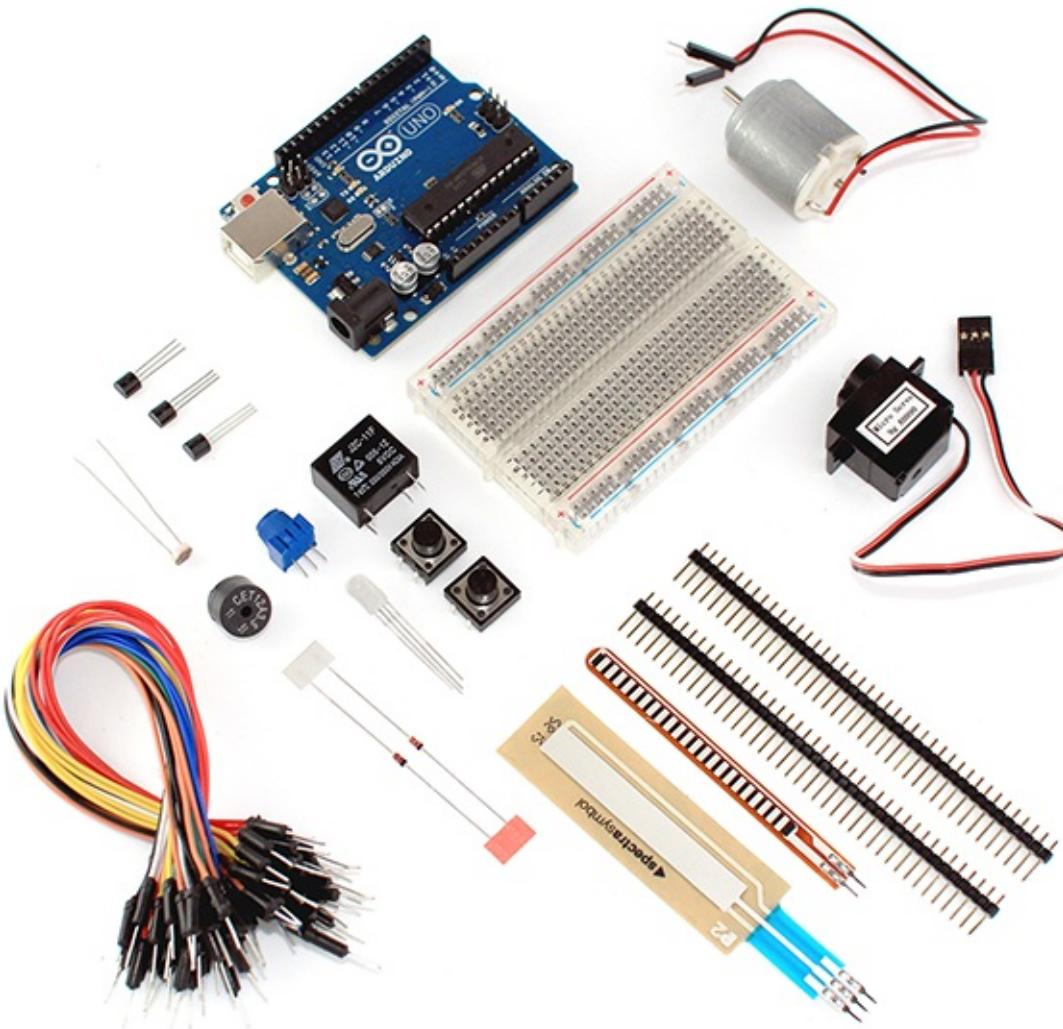

Figure 2-5: The SparkFun Inventor's Kit has a good range of components including flex sensitive and linear potentiometers.
- ✓ Sparkfun Inventor's Kit by Sparkfun (shown in Figure 2-5), available from